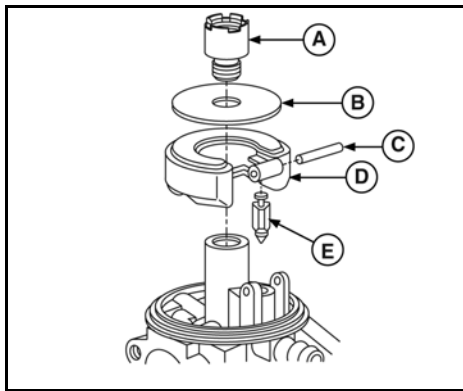

Figure 21
6. Install new inlet needle (E, Figure 21) on float (D), then position float in carburetor body. Secure with new hinge pin (C) and center the pin between the float bosses.
**NOTE:** On Model 97700, install the flat disc (B) and main jet (A).